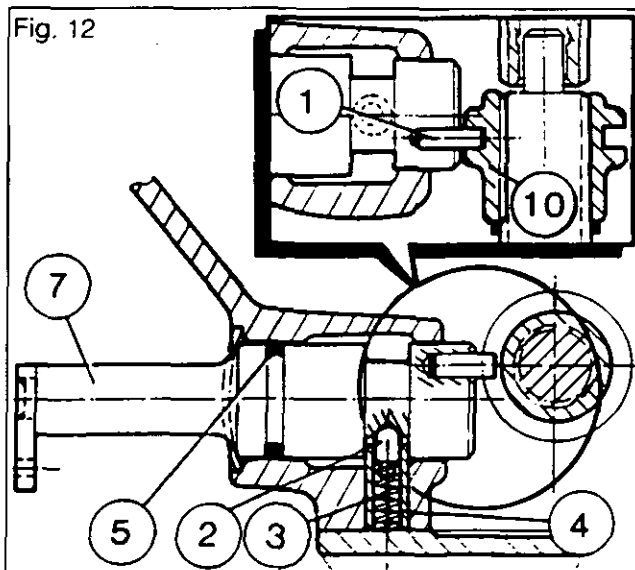

Fig. 12
50. Refit cover (12). Remove the guide studs. Fit and tighten the bolts to torque 130 - 170 Nm. Check operation of link (7) (Fig. 12).